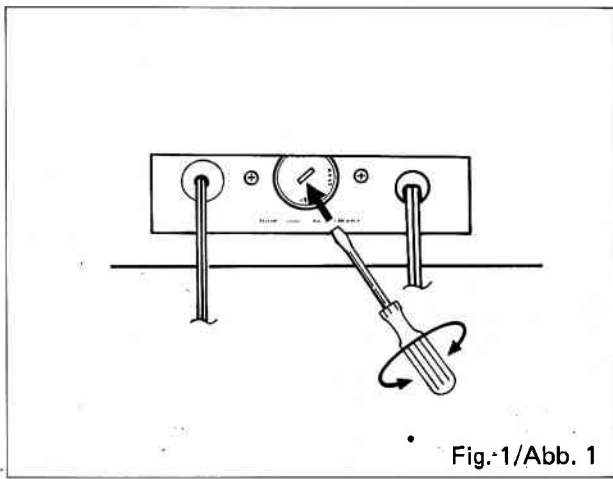

Fig. 1/Abb. 1
8. Before operating the unit for the first time in a new area, it is absolutely necessary to make sure that the setting of the voltage selector (located on the back of the unit) corresponds as closely as possible to your local voltage. To adjust the voltage, move the voltage selector which corresponds with your local voltage (Fig. 1).